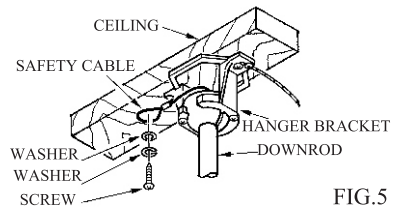

FIG.5
3. Install the safety cable into the building structure.(see Fig 5)